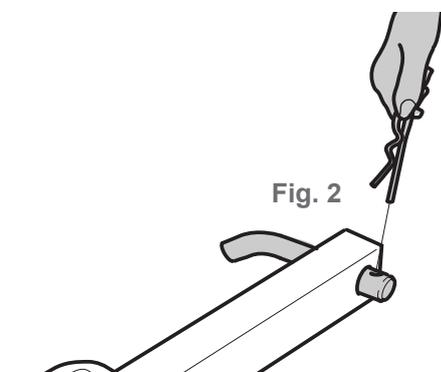

Fig. 2
- Remove the split pin "B" from the arm (fig. 2).